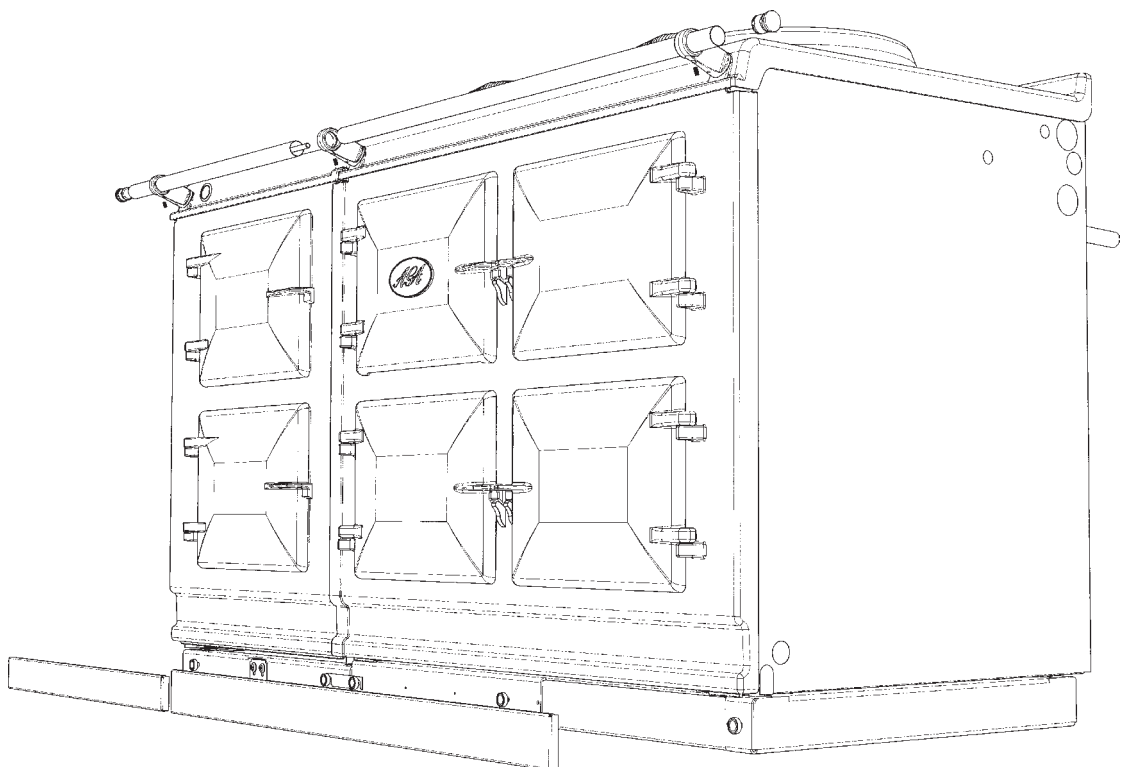

Fig. 17.12
11. On 5 oven appliances, fit allthread stud into the insert located in the one end of the handrail, then feed the handrail through the bracket (ensuring that the allthread stud is protruding from the right hand side of the hotcupboard handrail) and screw the handrails together. (Fig. 17.12).
- 14.** Finally, fit the plinth fascia to the magnets on the front of the plinth, making sure that on 5 oven appliances the right hand side of the module plinth fascia sits against the left hand side of the AGA R7 100 plinth fascia leaving no gap between. Make sure that the plinth facias are centrally located and do not overhang either appliance. (**Fig. 17.12**)